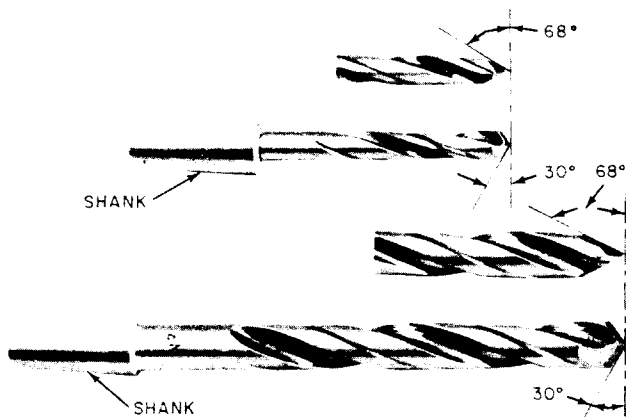

Fig. 2—Masonry Drills
**3.03** The L Masonry Drill has a spiral fluting similar to twist drills used for drilling metal. The shank of the drill is tapered to fit the socket of the drill holder (Fig. 2).
**5.04** Dull or unequal length cutting edges (a) and (b) may be restored to efficiency on an electric grinder. Maintain the same angle, (shown in Fig. 2), on the point as originally sharpened. See **Caution** in 5.02 regarding electric grinders. For all other defects (c), (d), and (e) the drills